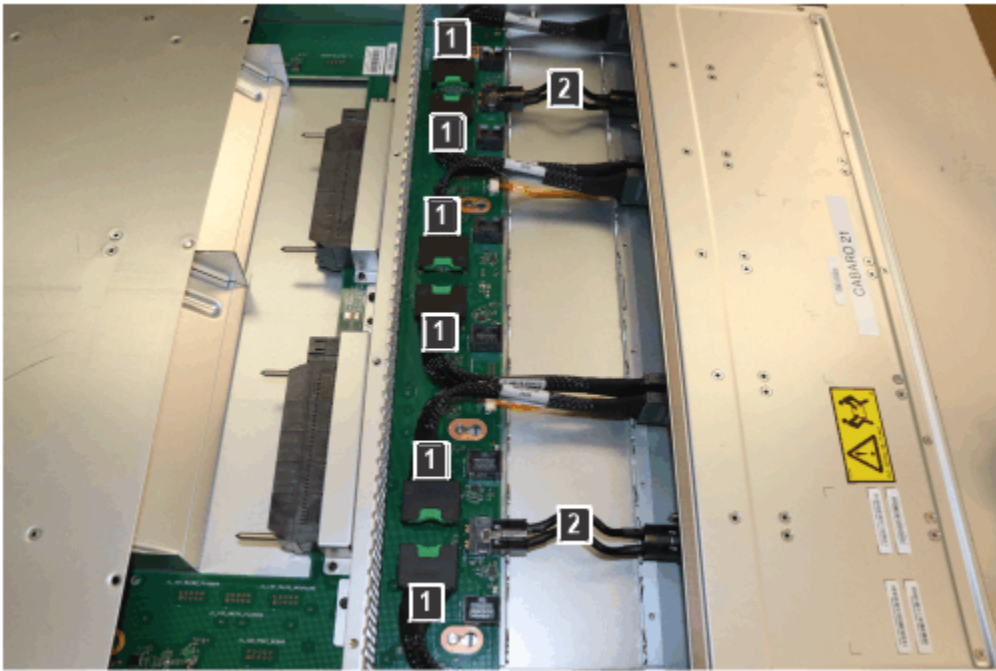

Figure 79. Midplane power and data cables
The drive midplane and enclosure midplane are connected by six high-speed data cables **1** and two power cables **2**, as shown in Figure 79 on page 139.
16. Disconnect the other eight cables that lead to the enclosure midplane, which is shown in Figure 79 on page 139: